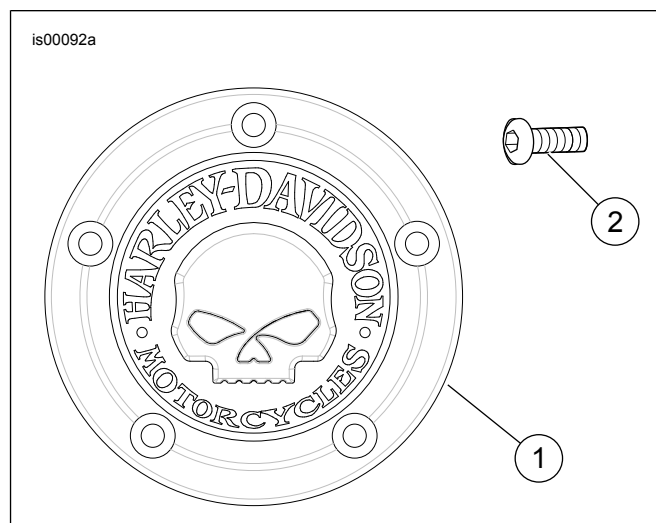

Figure 1. Service Parts: Timer Cover Kit
See Figure 1 and Table 1.
1. See Figure 1. Remove and discard five screws securing original timer cover.
3. Place new timer cover (1) in position and secure with TORX® screws (2). Tighten.